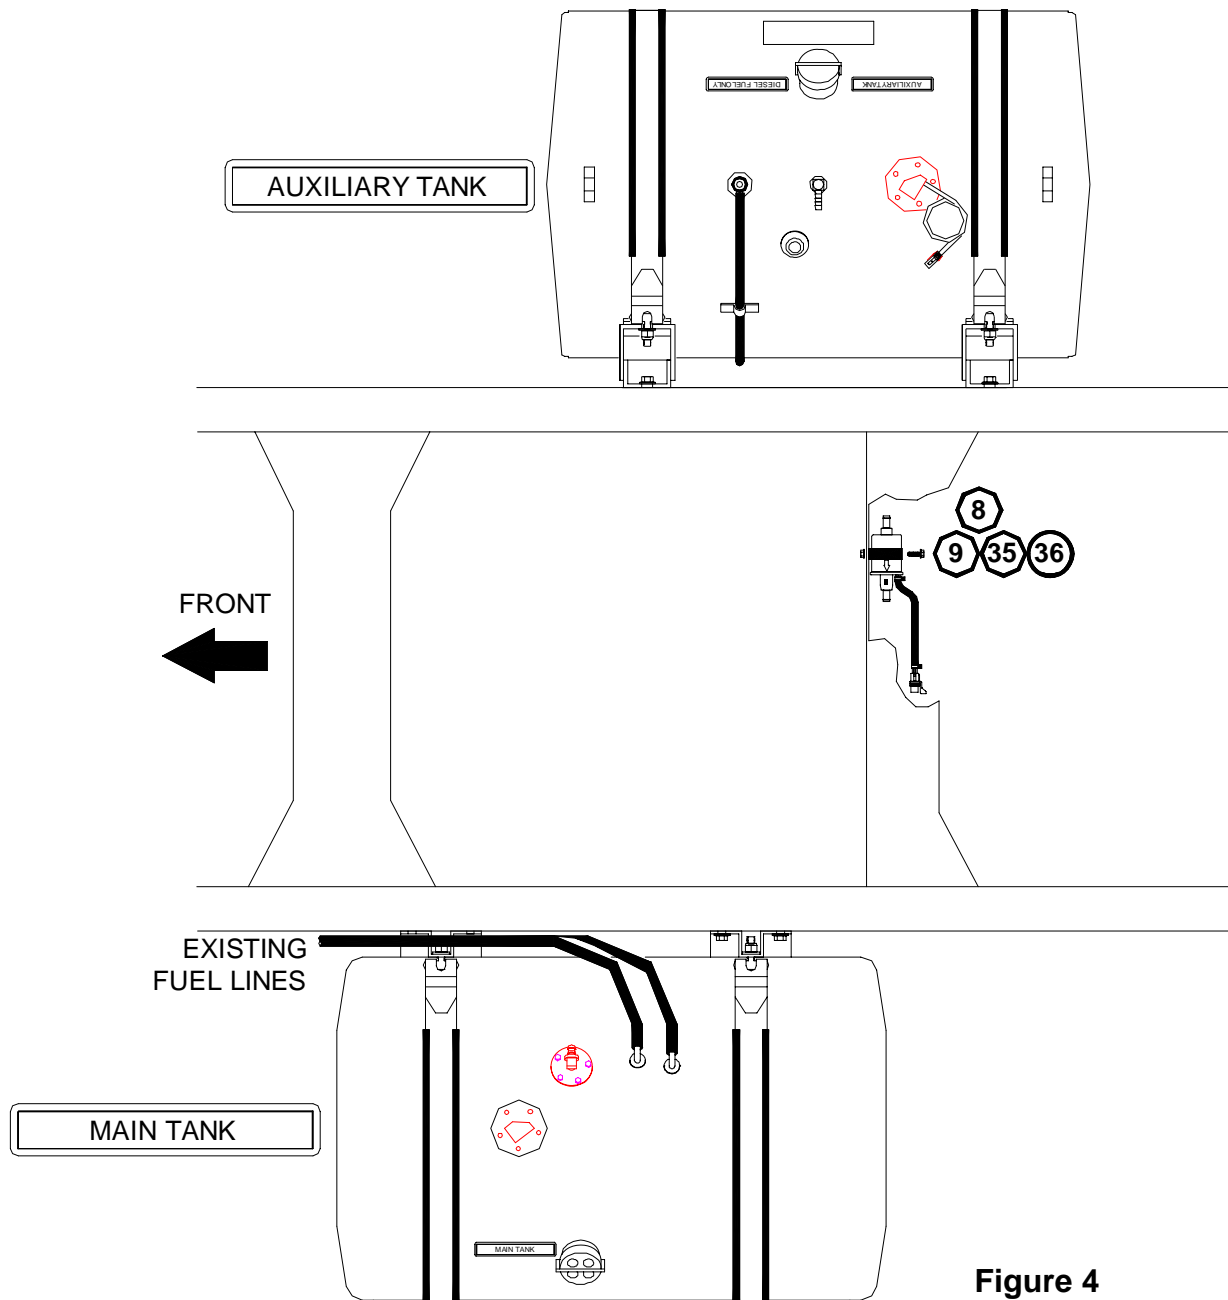

Figure 4
- On a cross-member between the two tanks, mount the transfer pump (Item #8) using any cross-member hole, fuel pump clamp (item #9) and hardware (Items #35 & 36). The pump should be mounted as close to the auxiliary tank as possible. Make sure the outlet of the pump is facing towards the main tank as shown in figure 4.
Fuel Hose Installation (See Figures 4 & 5)